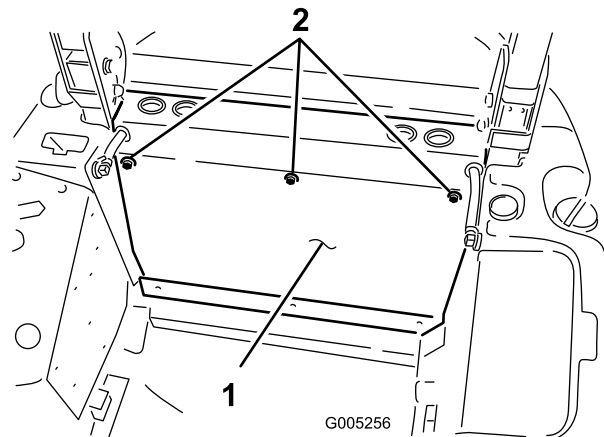

Figure 59
- Place the rear panel into position and align the top mounting holes with the holes in the frame cross member (Figure 59). Secure the top of the panel to the cross member with 3 screws previously removed.